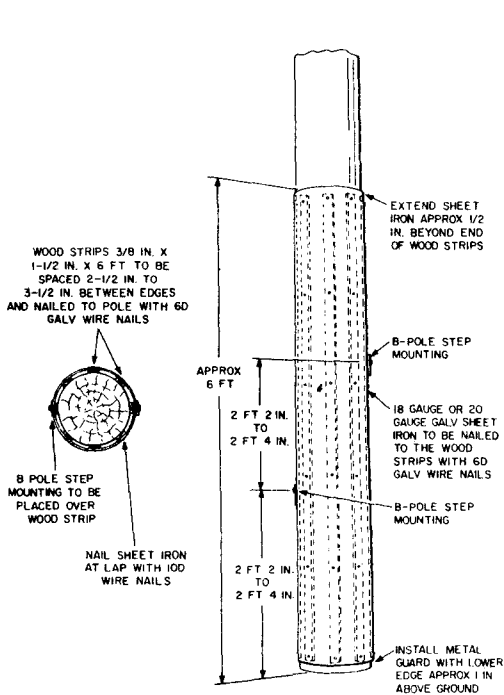

Fig. 4—Guard for Bleeding Poles
1.13 When bleeding of the preservative from a pole is objectionable, the public can be protected from contact by encircling the pole with a guard as shown in Fig. 4.